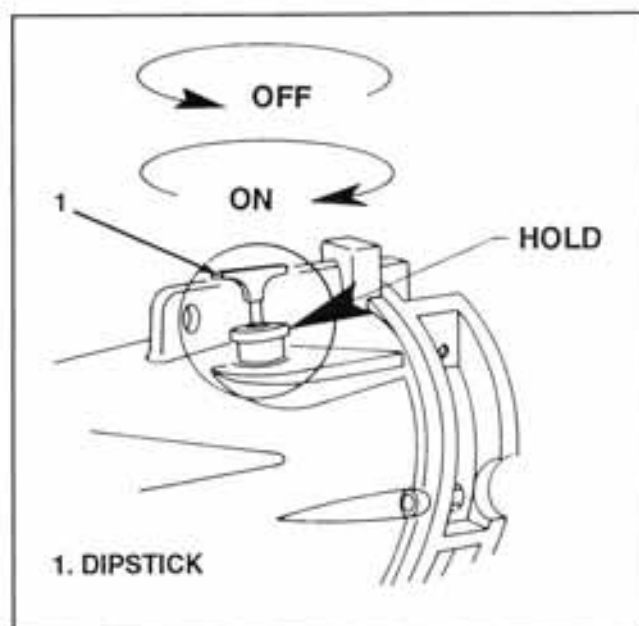

Figure 2-1. Dipstick Removal
2-6. Warm Fluid Level Check. With the engine at operating temperature, place the control lever in neutral and shut down the engine. Remove the dipstick (1) by holding the base and turning the T-handle counter clockwise (see figure 2-1) and wipe it clean. Insert the clean dipstick fully into the transmission, withdraw, and read the fluid level. Add or remove fluid as necessary to bring the fluid level to the full mark on the dipstick. Replace dipstick (1) and tighten by holding the base and turning the T-handle securely clockwise.